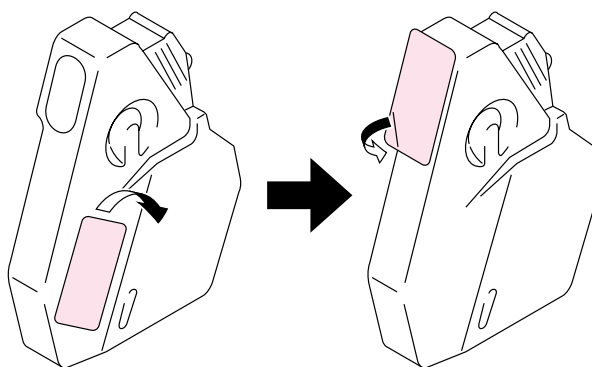

Fig. 5-11
3. Peel off the sealing sticker on the right side of the Waste Toner Pack. Seal the opening with the sealing sticker. See Fig. 5-11 for the correct placement of the sticker. When you dispose of the used Waste Toner Pack, place it in the plastic bag included with the replacement Waste Toner Pack. Please dispose of the Waste Toner Pack in accordance with local regulations.